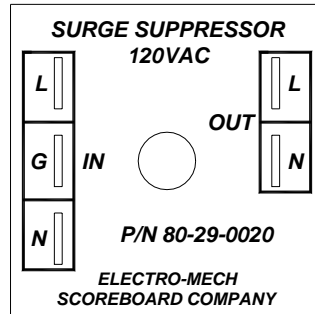

Figure 12 Surge Suppressor Terminals
6. Plug the ¼" quick disconnects on the ¼" tabs on the top of the module. The black wires should be connected to the ¼" tabs on the module labeled L. The white wires should be connected to the ¼" tabs on the module labeled N. The green wire should be connected to the ¼" tab on the module labeled G. Figure 12 shows the top view of the Surge Suppressor.